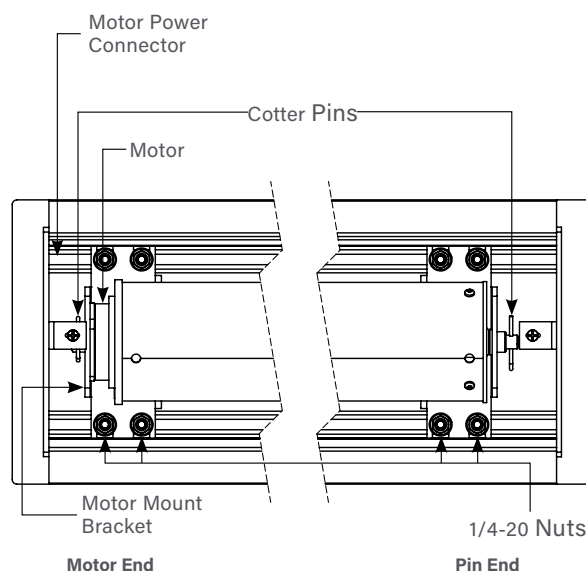

Figure 2
3. To install screen and roller assembly, loosen (but do not remove) four 1/4-20 nuts securing pin end bracket (opposite end from the junction box) to the case housing. Slide the pin end bracket towards the end of the case (Figure 2).
4. Insert the motor end square shaft into the motor end bracket (junction box end) and secure with the cotter pin. (Figure 2).
5. Moving to the pin end of the case, slide the pin end bracket until the hole fits securely over the pin and secure with the cotter pin. Tighten the 1/4-20 nuts on the pin end bracket securely (Figure 2).
6. Complete electrical hook-up by snapping motor wire connector into case connector (Figure 2).